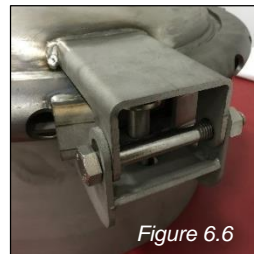

Figure 6.6
1. Remove the manway cover and the strap hinge bolt. (Figure 6.6 - 6.9)